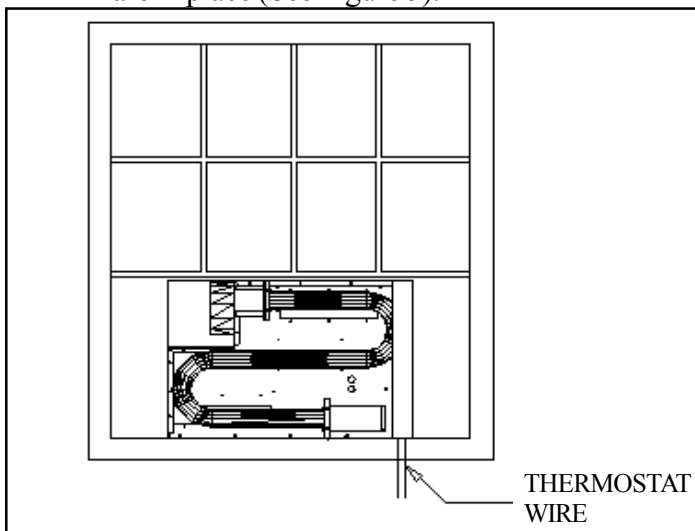
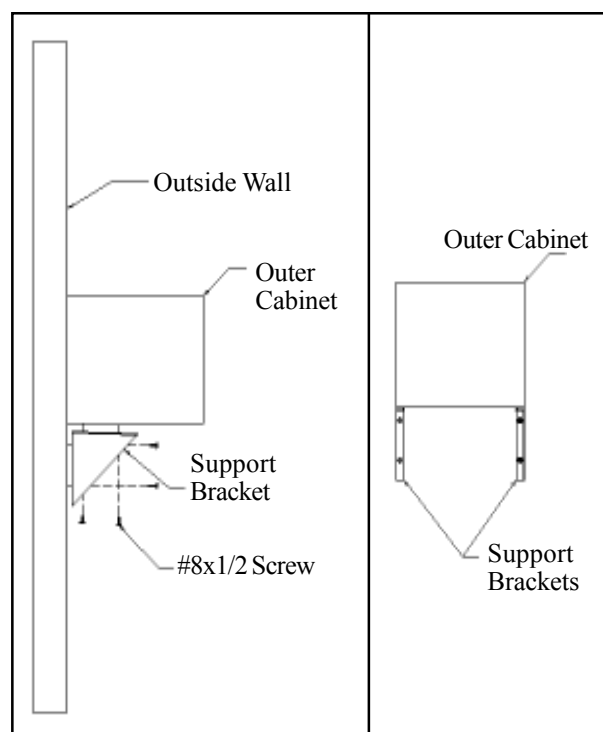

FIGURE 9
Figure 21
- I.) From outside secure the two support brackets to the outside wall, anchors (not provided) may be required. Make sure brackets are flush against the outer cabinet bottom and under the left and right sides. You must drill four 7/64" holes through the outer cabinet bottom using clearance holes in the support bracket as a template. Secure bracket to outer cabinet bottom using four #8x1/2" screws provided. See Figure 21.
- K.) Locate factory installed thermostat wires extending from the front of heater. Connect 24 V. wall thermostat (provided) to heater using a maximum 20' of thermostat wire. Do **not** splice thermostat wire. (See Figure 9).
- H.) From outside secure the two support brackets to the outside wall, anchors (not provided) may be required. Make sure brackets are flush against the outer cabinet bottom and under the left and right sides. You must drill four 7/64" holes through the outer cabinet bottom using clearance holes in the support bracket as a template. Secure brackets to outer cabinet bottom using four #8x1/2" screws provided. See Figure 21.
- I.) Gently slide combustion tube assembly back into outer cabinet. Check to make sure the gaskets on the intake and exhaust tube flanges are in place and unbroken. Flanges must be flush against back of outer cabinet. From outside, secure back of outer cabinet to air intake and exhaust flanges with the six (6) screws removed in step D.
- J.) Locate factory installed thermostat wires extending from the front of heater. Connect 24 V. wall thermostat (provided) and a maximum 20' of thermostat wire. Do **not** splice thermostat wire. (See Figure 9).
- I.) Gently slide combustion tube assembly into outer cabinet. Check to make sure the gaskets and the intake and exhaust tube flanges are in place and unbroken. Flanges must be flush against back of outer cabinet. From outside, secure back of outer cabinet to air intake and exhaust flanges with the six (6) screws removed in Step D.
- J.) Locate factory installed thermostat wires extending from the front of heater. Connect 24 V. wall thermostat (provided) using 20' maximum thermostat wire. **Do not** splice thermostat wire. (See Figure 9).